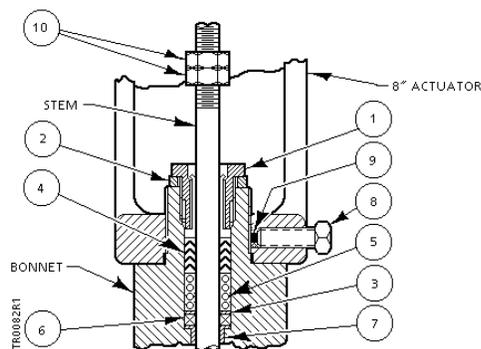

Figure 5. V-ring Packing Assembly.
Choose the proper V-ring packing kit from Table 3. When a kit has two packing gland assemblies or two gland spacers, See Tables 4 and 5 and Figures 1 and 2. Select the packing gland assembly (item 1, Figure 5), gland spacer (item 2, Figure 5), and washer (item 3, Figure 5) for the valve size and type being serviced.
VF591SD and VF591ST valves, 1/2-inch (13 mm) through 2-inch (51 mm) sizes, use the stem bearing (item 7, Figure 5) included in each kit.
The eight-inch actuators use the set screw (item 8, Figure 5) and the copper slug (item 9, Figure 5) included in each kit.
See Figure 5 for the location of the parts used in this procedure unless otherwise indicated.
5. On valves with a removable stem bearing (item 7), examine it and replace if damaged. If replaced use epoxy type adhesive (not provided) to hold the new bearing in place.
7. The packing parts must be installed in the exact order shown in Figure 5. Place split ring (item 6), washer (item 3), and spring (item 5) over the stem and gently push each piece into the packing chamber.
8. Remove the tie wrap holding the V-ring packing set (item 4) together and lightly lubricate each V-ring with the silicone lubricant provided in the packing kit.